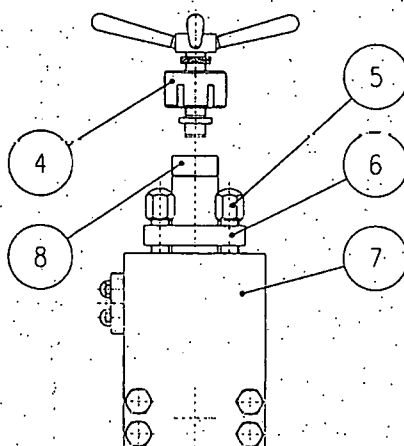

Figure 2
3. Unscrew box nuts/hexagon head screws Pos.5 after which flange Pos.6 can be removed (fig.2).